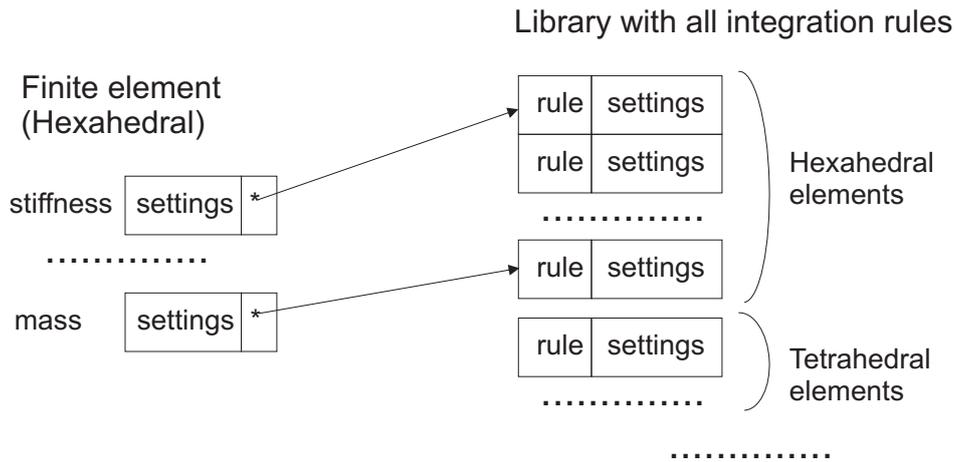

Figure 2.7: Access to the relevant integration rules for a finite element
- “Linkage” of the finite elements with the relevant integration rules from the library (see Fig. 2.7) is done during the assembling of the model (see `FiniteElementGeneric::PreAssemble()`). The standard implementation in `FiniteElementGeneric` includes pointers to three integration rules, which are initialized in `FiniteElementGeneric::PreAssemble()` during the evaluation of `MBS::Assemble()`. The consequence is that some functions should not be called during the model creation, as e.g. `Element::DataS()` may at this stage be undefined for elements with plastic variables.